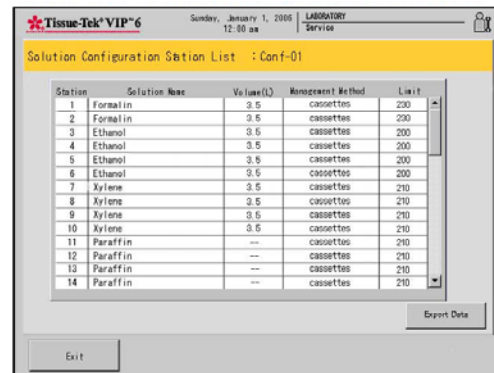

Figure 3-RR
- Touch **Export Data** (Figure 3-RR) to export data (see Exporting System Setup Data-Section 3).